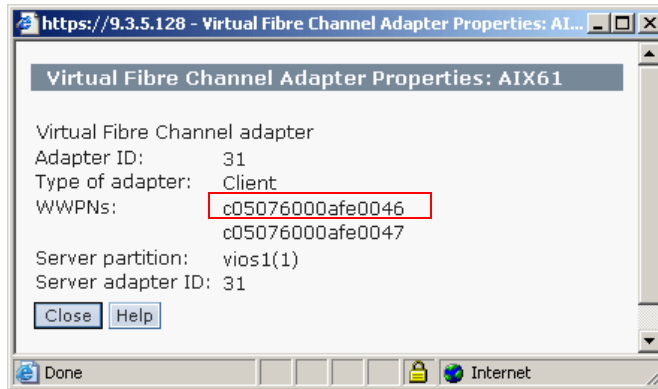

Figure 2-38 Virtual Fibre Channel client adapter Properties
- ii. Figure 2-38 shows the properties of the virtual Fibre Channel client adapter. Here you can get the WWPN which is required for the zoning.